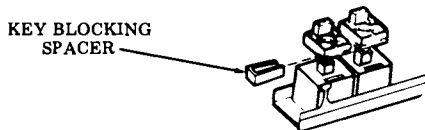

Fig. 11—Blocking Spacer Removal
- Slide spacer to the left as far as it will go and then pull to the rear. (Fig. 11).